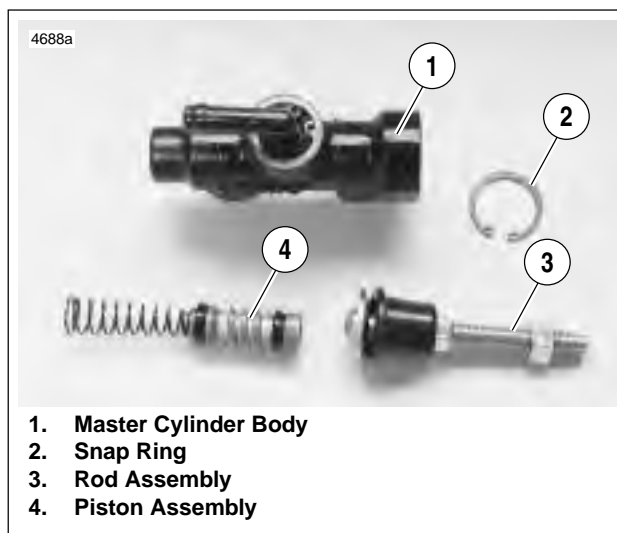

Figure 2-37. Master Cylinder Internals
1. See Figure 2-37. Slide rubber boot on rod assembly (3) away from master cylinder body (1).
2. Depress rod assembly (3) and remove internal snap ring (2). Discard snap ring.
3. Remove piston assembly (4) from master cylinder body.
1. See Figure 2-37. Insert piston assembly (4), spring first, into master cylinder.
2. Place round side of rod assembly (3) over piston. Depress piston into master cylinder body (1) and secure with a **new** snap ring (2).
3. Tuck rubber boot on rod assembly (3) into master cylinder body (1).